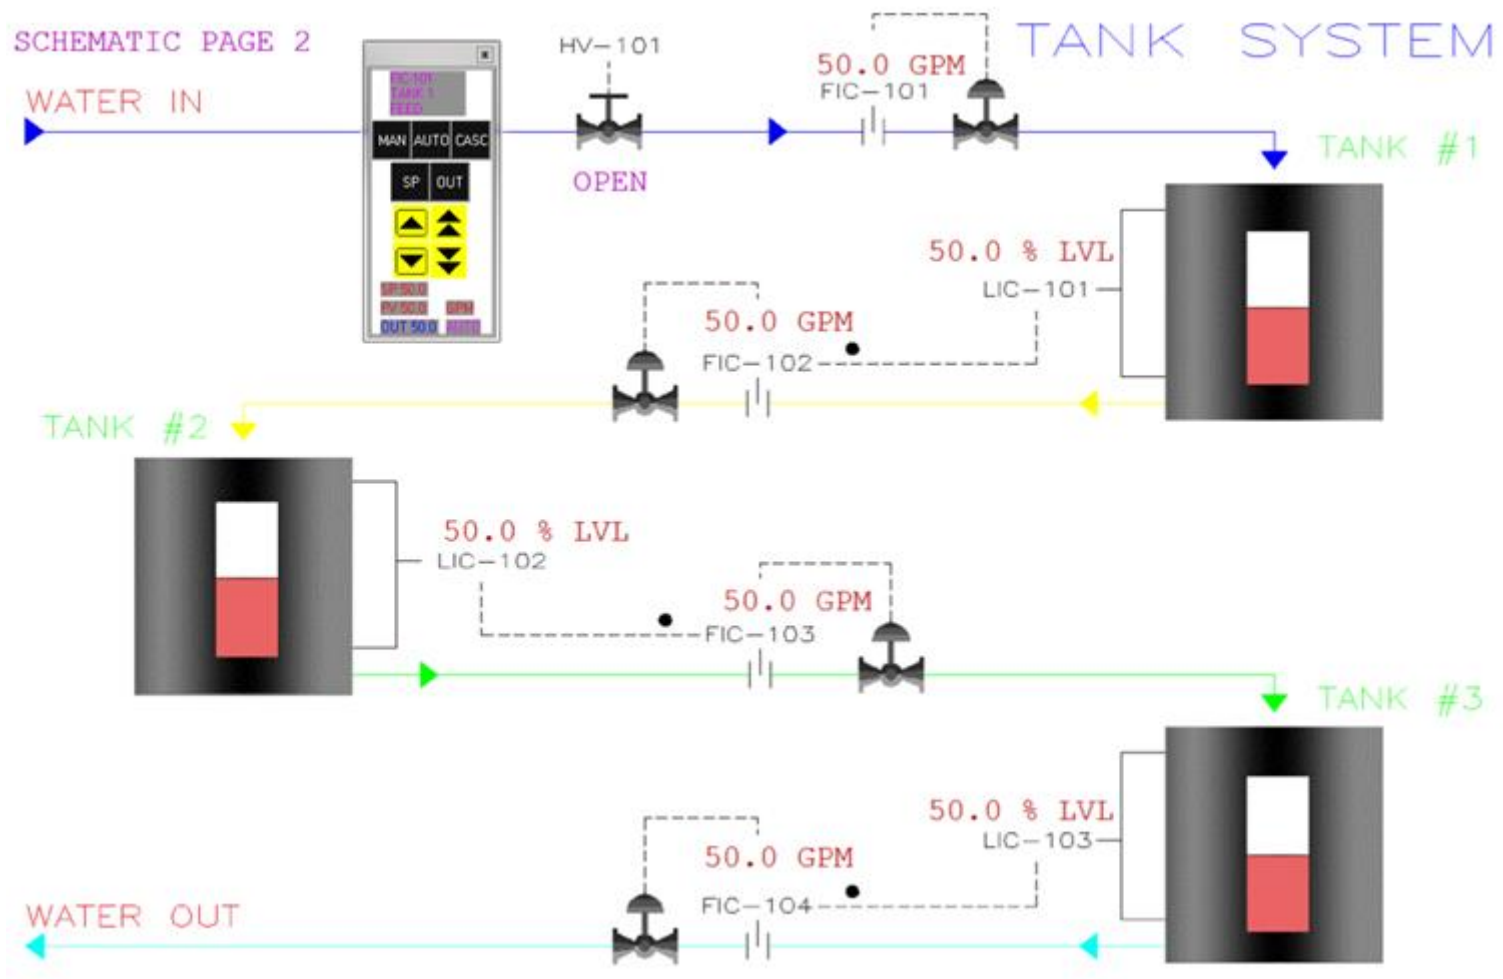

Figure 1. Process Schematic
The schematic for normal operating conditions is shown in Figure 1.
7. If HV-101 in Figure 1 closes, what happens to FIC-101?
8. If the water in decreases in Figure 1, what happens to FIC-101 output?
9. If FIC-101 in Figure 1 increases, what happens to FIC-102?
10. If LIC-101 in Figure 1 is running in automatic and the level increases, what happens to FIC-102?
11. If FIC-102 is in manual and FIC-101 increases in Figure 1, what happens to LIC-101?
12. If LIC-102 increases in Figure 1, what happens to the output of FIC-103?
13. If the output of FIC-103 increases, what happens to LIC-103 in Figure 1?